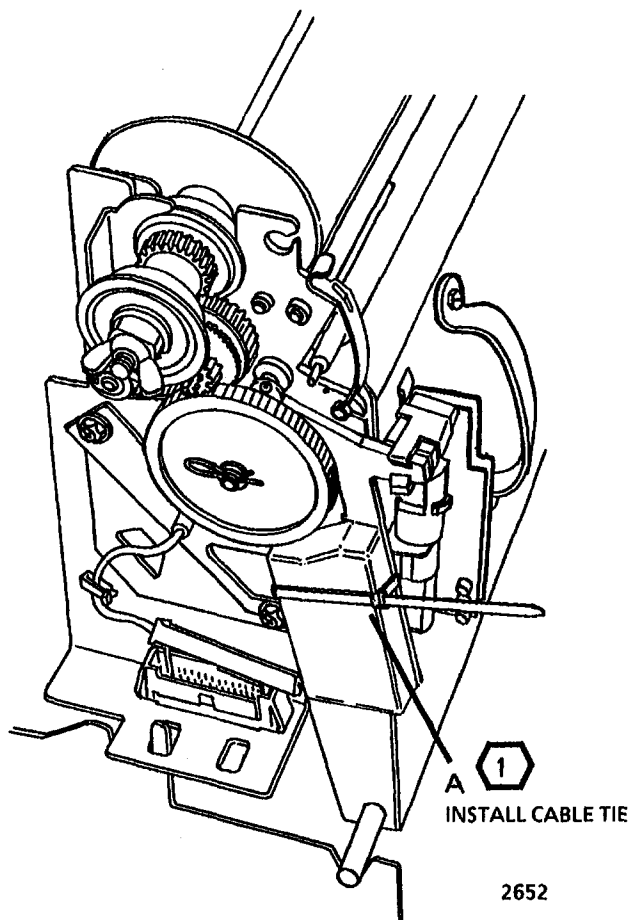

Figure 1. Installing the Cable Tie
4. (Figure 1): Install a cable tie on the Blade Weight.